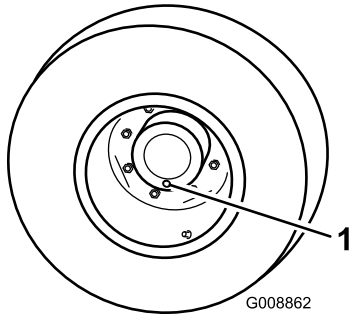

Figure 55
1. With the machine on a level surface, position a wheel so that a check plug is at the lowest (6 o'clock) position (Figure 55).